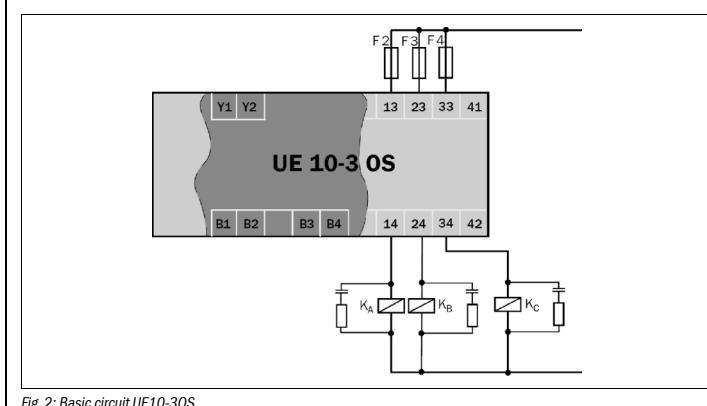

Fig. 2: Basic circuit UE10-3OS
• To prevent the welding of the contacts on the built-in relay, an overcurrent protection device with max. 6 A short-circuit protection (duty class gG) is to be integrated into the current paths (see Fig. 2, enable current path fuse F2/F3/F4).